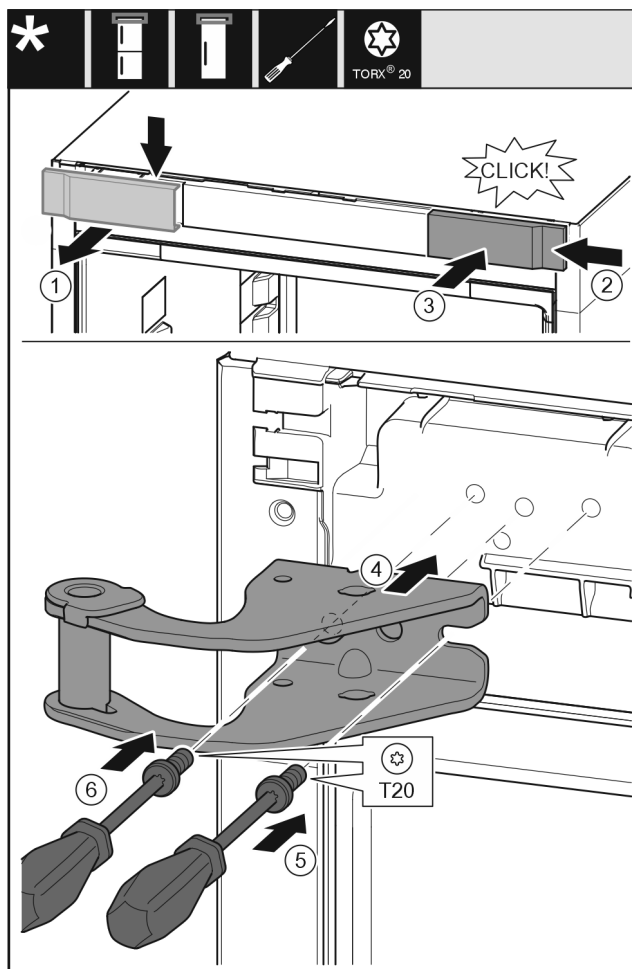

Fig. 15
- ▶ Remove the cover Fig. 15 (1) from the top towards the front.
- ▶ Hang the cover Fig. 15 (2) from the right turned by 180° to the other side.
- ▶ Snap in the cover Fig. 15 (3).
- ▶ Attach the top swap bearing block Fig. 15 (4).
- ▶ Attach and tighten the screw Fig. 15 (5) with a screwdriver.
- ▶ Attach and tighten the screw Fig. 15 (6) with a screwdriver.